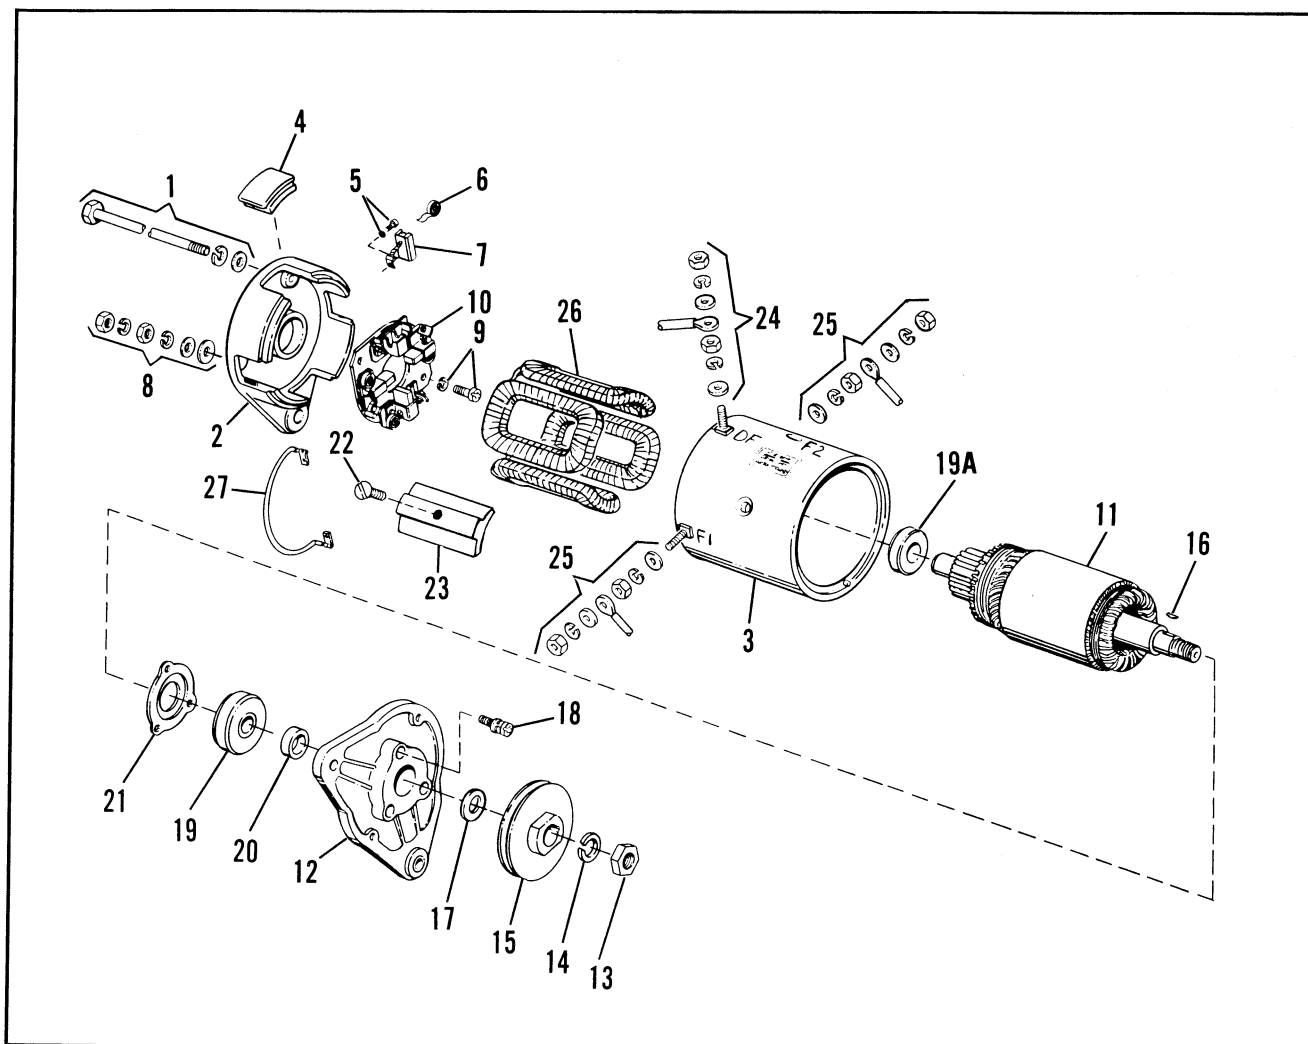

Figure 97 – Starter-Generator Disassembly
Disassembly (Figure 97)
Assembly (Figure 97)
- Figure 97 shows correct stacking of wire mounting bolt hardware (24), (25).